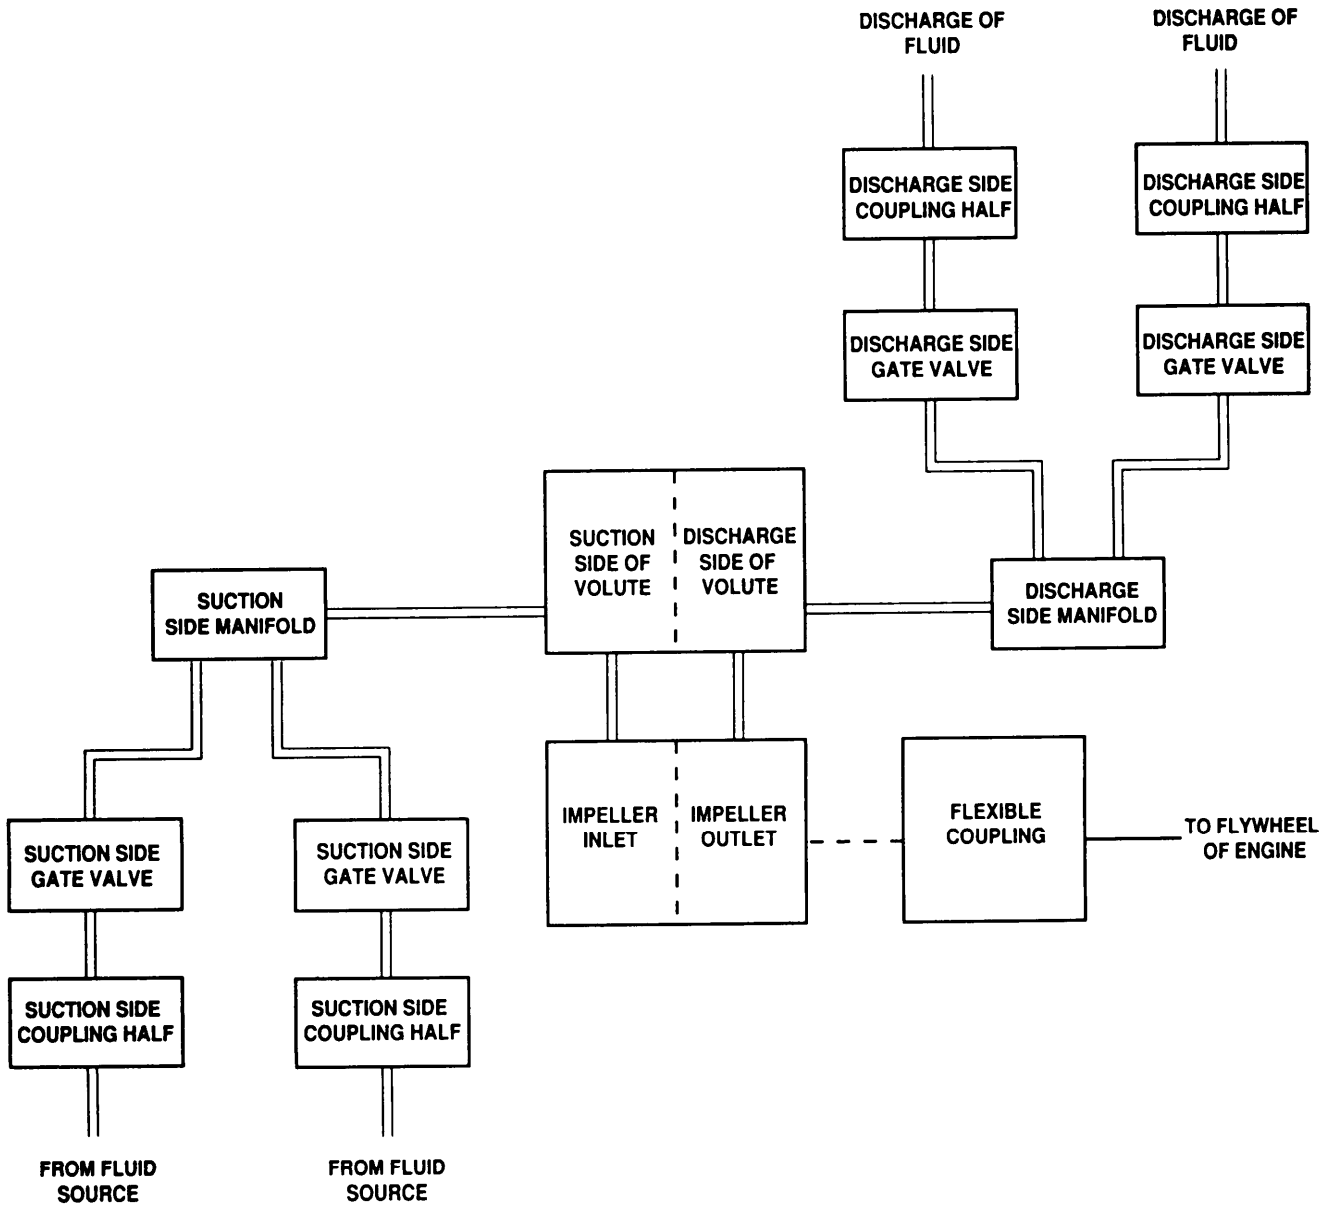

Figure 1-9. Pump Assembly Functional Block Diagram.
**1.14.2.7 Pump Assembly.** The pump assembly transfers fluid from one point to another point. Figure 1-9 is a functional diagram of the pump assembly. The fluid is brought into the 350 GPM pump via the suction section. The suction section provides two suction inputs. Each suction input has a valve that controls the size of opening to the suction side of the pump. In addition, each suction input has a coupling half to connect to the fluid source. Both suction inputs are connected to the suction manifold. The suction manifold is connected to the suction side of the volute. The suction section consists of two coupling halves, two gate valves, and the suction manifold.